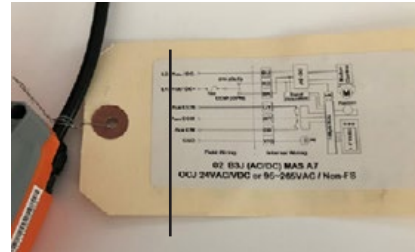

Fig. 1
7. Refer to the wiring diagram attached to the flying lead on the actuator (see example Fig 1) for wiring connections.